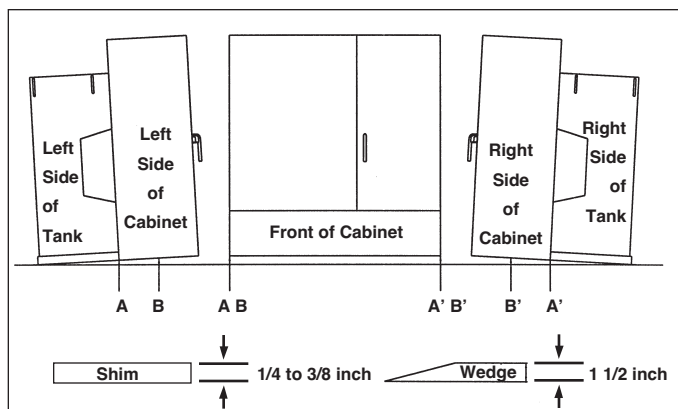

Figure 30.
2. Place one 1/4 to 3/8 inch shim directly below faceplate on both sides of tank at points A and A' (see Figure 30).